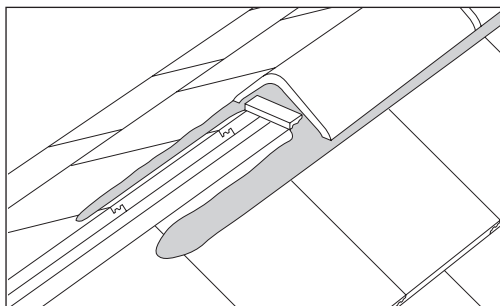

Fig 47 – Bedded ridge with tile slips to support mortar at butt joints
- Edge-bed ridge tiles onto the top course tiles with solid bedding at butt joints (Fig 47).